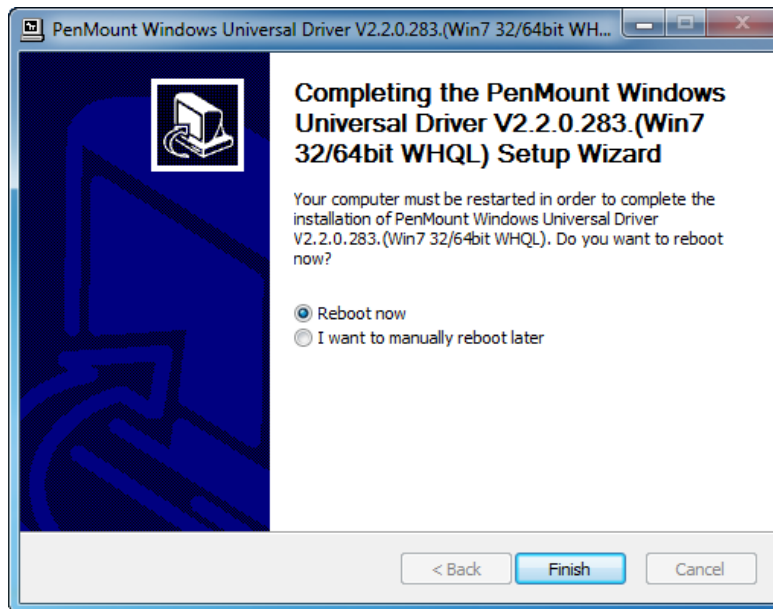

Figure 5-16: Touch Screen Driver Update Complete
Step 12: When the installation is complete, click **FINISH** to exit setup. (Figure 5-16).